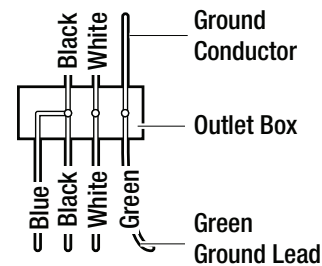

Figure 6
- ❑ Connect the fan supply (black) wire and light supply (blue) wire to the black household wire as shown in Figure 6. Do not connect the blue wire if the light kit is not used.
- ❑ After connecting the wires, secure the wire connectors (BB) with black electrical tape and spread them apart so that the green and white wires are on one side of the outlet box and the black and blue wires are on the other side (i.e., grounded conductor on one side and hot wires on the other side).
- ❑ Turn the wire connectors (BB) upward and push the wiring into the outlet box.